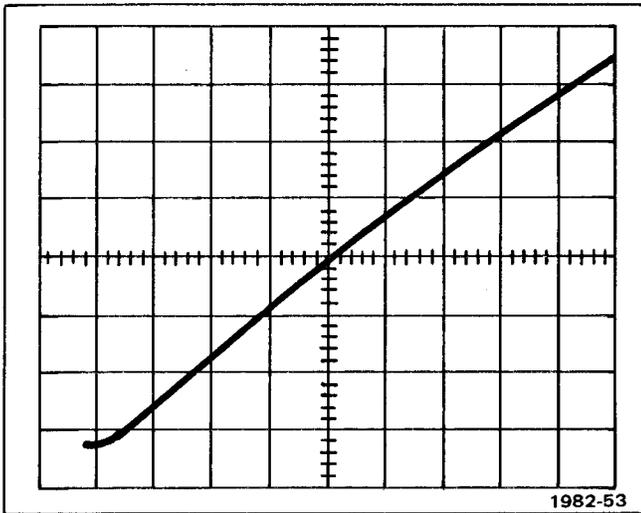

Fig. 3-6. SWEEP RAMP OUT display.
c. CHECK—Display is tilted line (see Fig. 3-6).